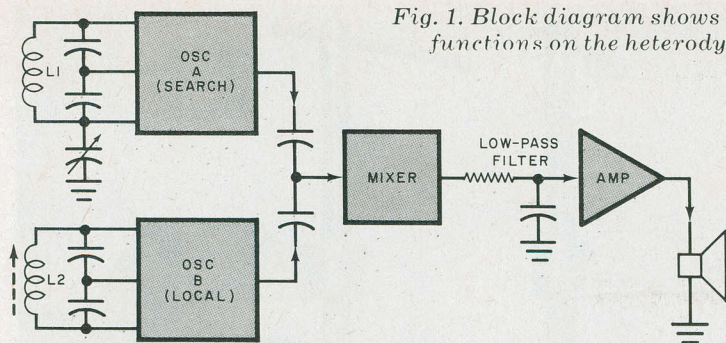

Fig. 1. Block diagram shows how the locator functions on the heterodyning principle.
**Circuit Operation.** The metal locator, shown in block-diagram form in Fig. 1, functions on the beat-frequency (heterodyning) principle. Here, two high-frequency r-f signals are combined, or "beat" together, in the FET mixer to produce a difference frequency. (Actually, the mixer output contains the original frequencies along with their sum and difference, but it is the difference frequency that interests us because it is the only one that lies in the audio range.)
Assume that oscillators A and B in Fig. 1 are set to 650.454 and 650.400 kHz, respectively. Combining these in the FET mixer, we obtain signals at 650.454 kHz, 650.400 kHz, 1300.854